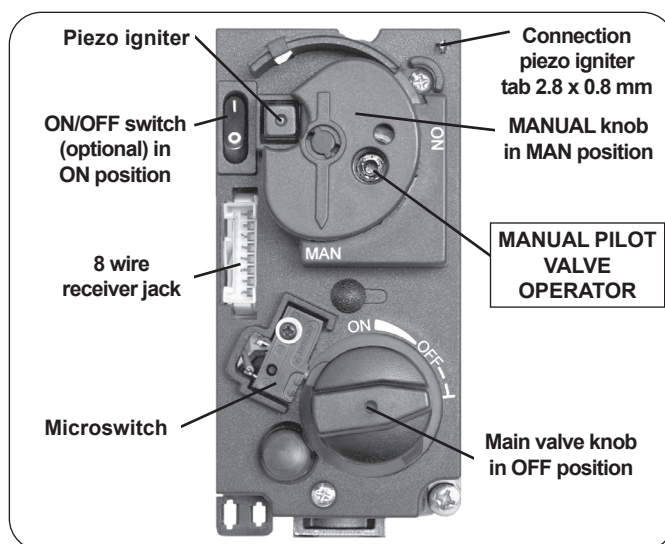

Fig. 9-1 Combination control, cover
5. Wait five (5) minutes to clear out any gas. Verify that no gas is in the area around the appliance, including near the floor. **If you detect gas STOP! Follow "WHAT TO DO IF YOU SMELL GAS" in the safety information on page 1.** If no gas is present, proceed to step 6.
8. Using a small screwdriver (or similar), fully push down manual pilot valve operator and hold in, to start pilot gas flow (see Fig. 9-1).